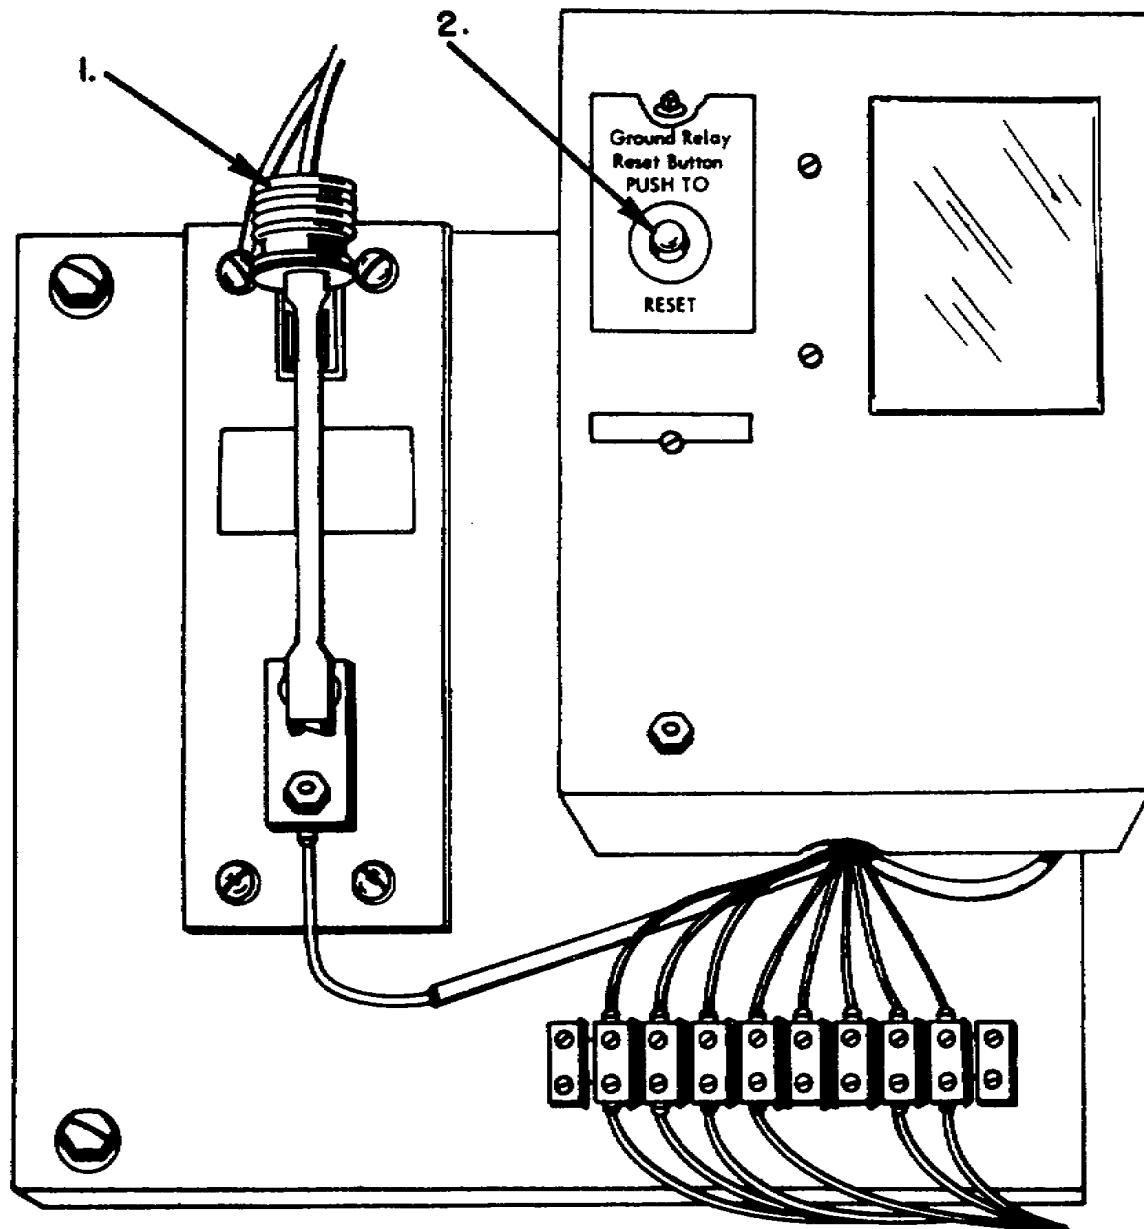

Figure 1.18. Ground Relay.
(1) Ground relay. Illustrated in figure 1.18, a ground relay is installed in the main power circuit to warn if a ground develops. When the circuit is grounded, current flows through the relay and its contacts close circuits to an alarm bell or an indicator